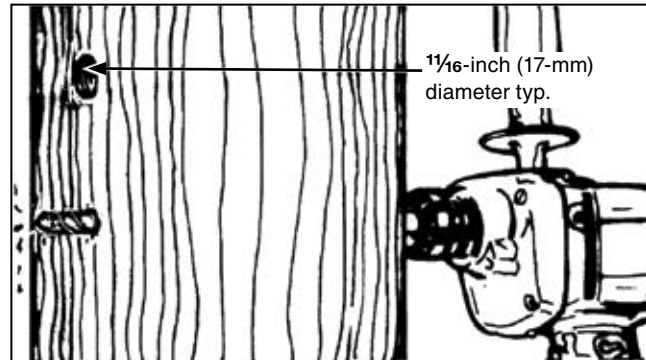

Figure 3. Drilling holes for the switch-mounting bracket.
- STEP 1.** Drill two $\frac{1}{16}$ -inch (17-mm) diameter holes through the utility pole as shown, at the desired height for mounting the switch. See Figure 3. Refer to the erection drawing.